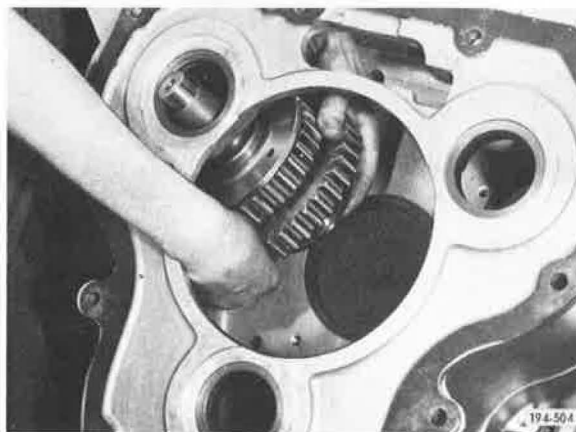

Figure 367. Installing Countershaft
2. Install the three countershaft assemblies into the front compound. See Figure 367.